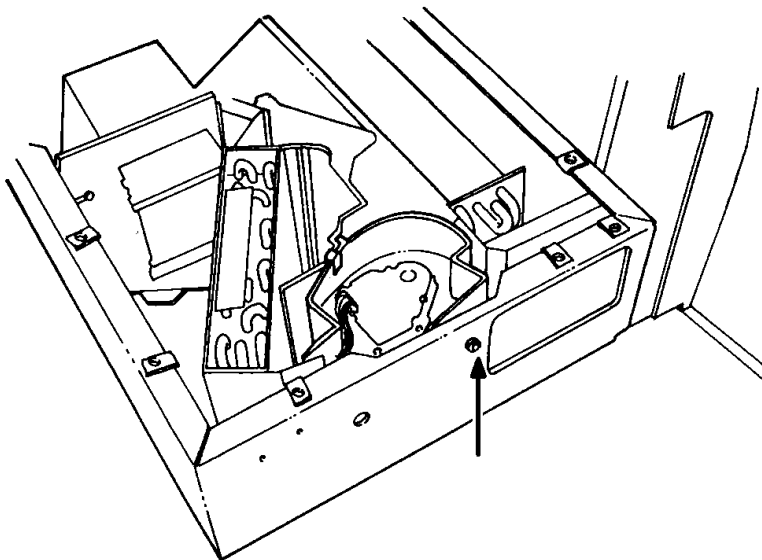

Figure 27 Screw on Back Side of Blend-Air Unit
5. Remove one screw that secures the bunk blend-air assembly to the back side of Blend-Air unit (Figure 27).
2. Secure to back side of unit with screw removed previously (Figure 27).